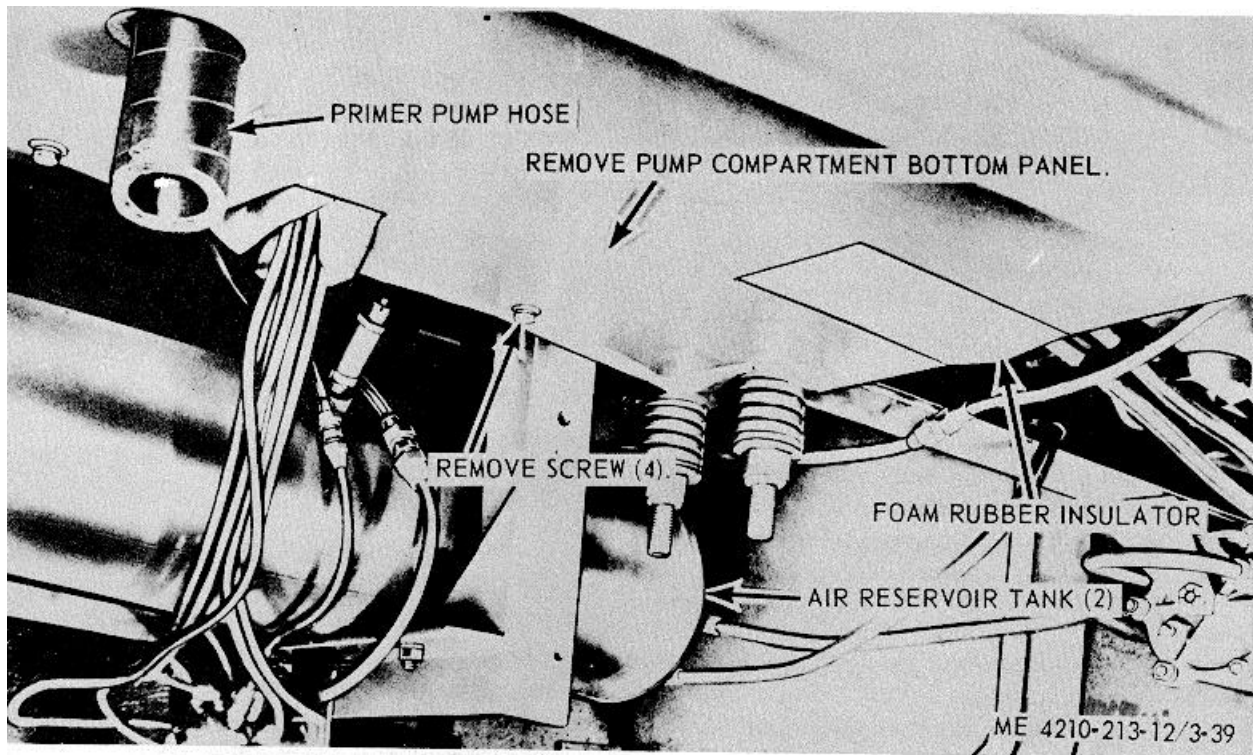

Figure 3-39. Pump compartment panel, removal and installation.
- a. Removal.* Refer to figure 3-39, and remove the pump compartment panel from the pump compartment.
- (1) Clean with an approved cleaning solvent, and dry thoroughly.
- (2) Inspect damaged or defective condition.
- (3) Replace or repair as necessary.
- c. Installation.* Refer to figure 3-39, and install the pump compartment panel on the pump compartment.